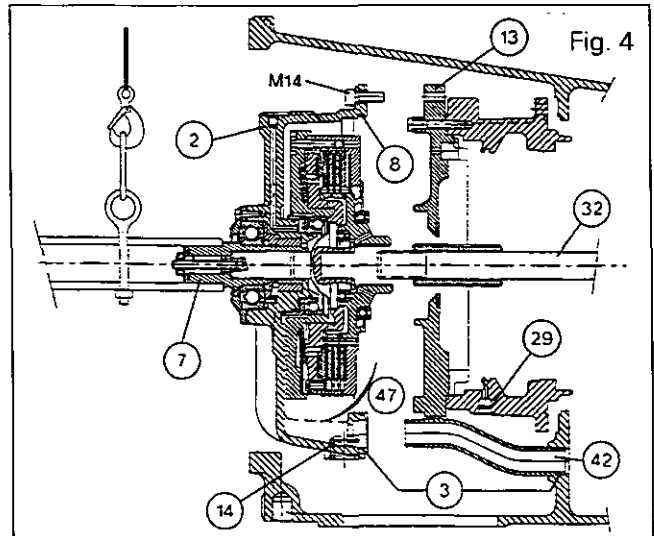
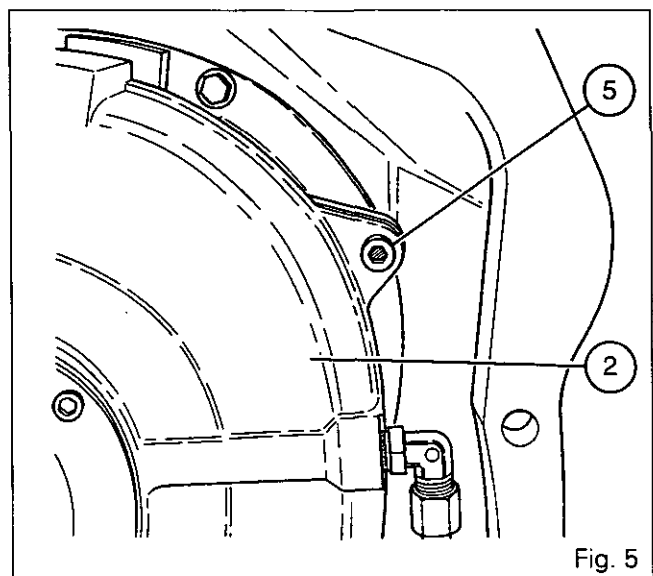

Fig. 4
Fig. 5
B. Removing and replacing the housing (2) and the clutch (47)**Removal**
8. Remove the tube (76). Unscrew and remove the cover (61), the flange (19), and the tube (17).
9. Remove the grommet (58), the tubes (10) (20) (65) (51), and the fittings (56) (64).
10. Place the on-site made tool (5 F) on shaft (7) (Fig. 5). Clean screw holes (5). Place three M 14 screws in the threaded holes in the housing. (2). Tighten the screws at uniform pressure and alternatively, in order to extract the housing and the gear assembly (47) (Fig.4).
13. Replace the O-rings (3) (8) (14) (29).
14. Refitting the tube (42) (Fig. 4).
Using the tool employed in the operation 10, re-install the clutch assembly (47) and the housing (2). Remove the guide studs. Use screws (5) to facilitate casing (2) engagement on cover (13). Guide tube (42) so it can easily be fitted in casing (2) (Fig. 4). Once assembly is completed, check that it is correctly mounted without being clamped.
16. Tighten the screws (5) at 72 - 96 Nm.
17. Replace the O rings (15) (28). Re-install the fittings (56) (64), the tubes (10) (20) (65) (51), and the grommet (58).
18. Clean the surfaces of the housing gasket on the gear housing and the cover (61). Apply Loctite 510 or an equivalent on the surface of the housing joint.
19. Replace the dust guards (27) and the O-ring (63).
20. Re-install the tube (17), the flange (19), and the cover (61). Tighten the screws (31) to 200 - 260 Nm.
21. Tighten the screws (38) to 41 - 53 Nm, as well as the screw (26).
22. Reconnect the tube (76).